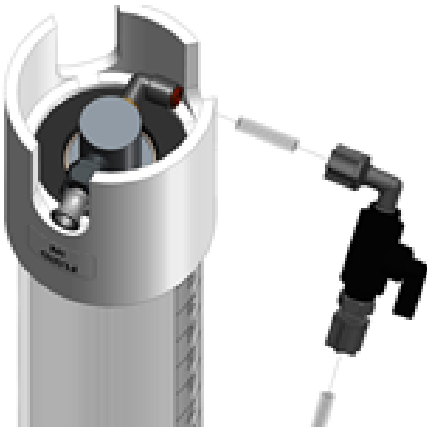

Figure 4: Optional ball valve.
- The installation is shown in Figure 4 and the cut-length for the tubing is detailed in Table 2.